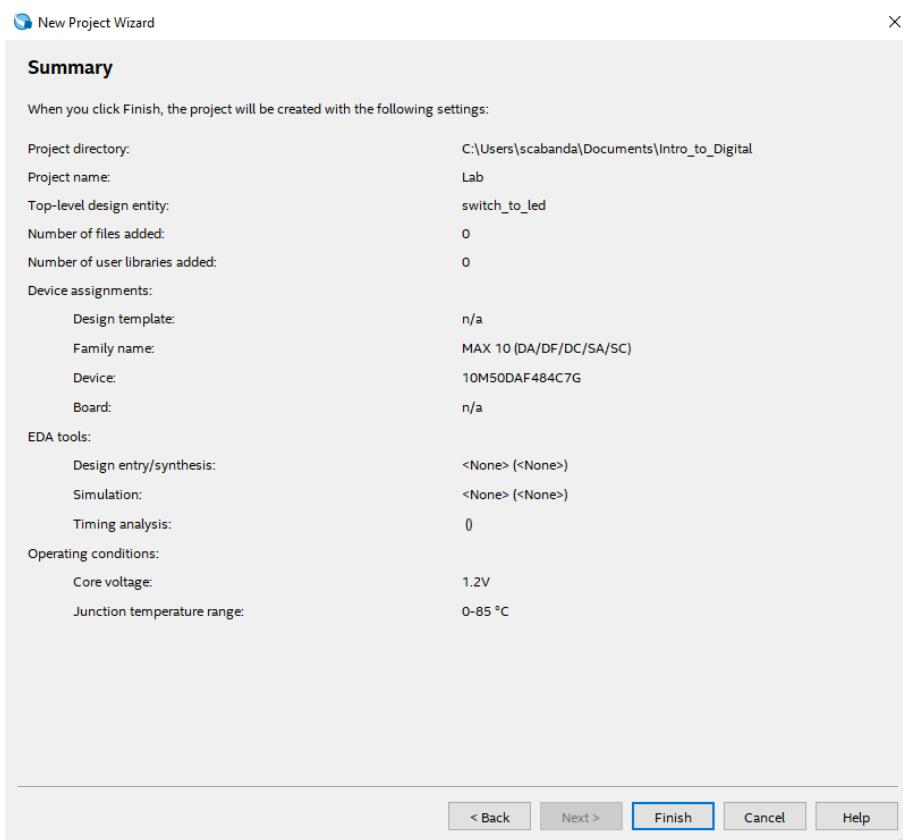

Figure 6: Summary page generated by the New Project Wizard
- Pane 7: Summary.** Pane 7 should look similar to the image seen in Figure 6 on the following page.